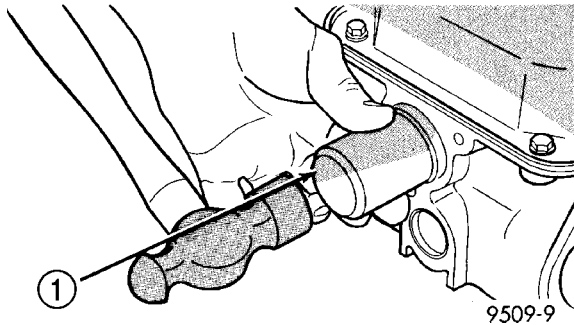

Fig. 33 Camshaft Oil Seal - Installation
(1) Install camshaft seal flush with cylinder head using Special Tool MD998306 (Fig. 33).